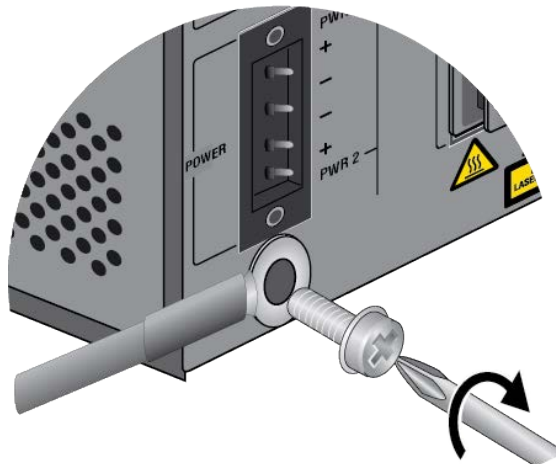

Figure 37. Attaching the Grounding Wire to the Switch
8. Secure the grounding screw to the IE220 Switch with the grounding screw. Refer to Figure 37.